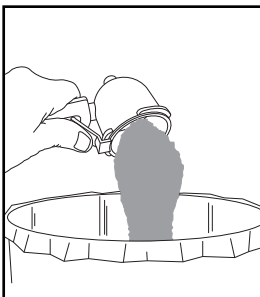

Fig. 13
11. After de-pressurizing remove the filter holder by turning it to the left to the "open lock" symbol. Then push the thumb-guard of filter holder over the hot rim of the basket. Dump the used coffee (fig. 13) and rinse the basket and the filter holder under running water. Return the coffee/steam selector to the cup symbol.